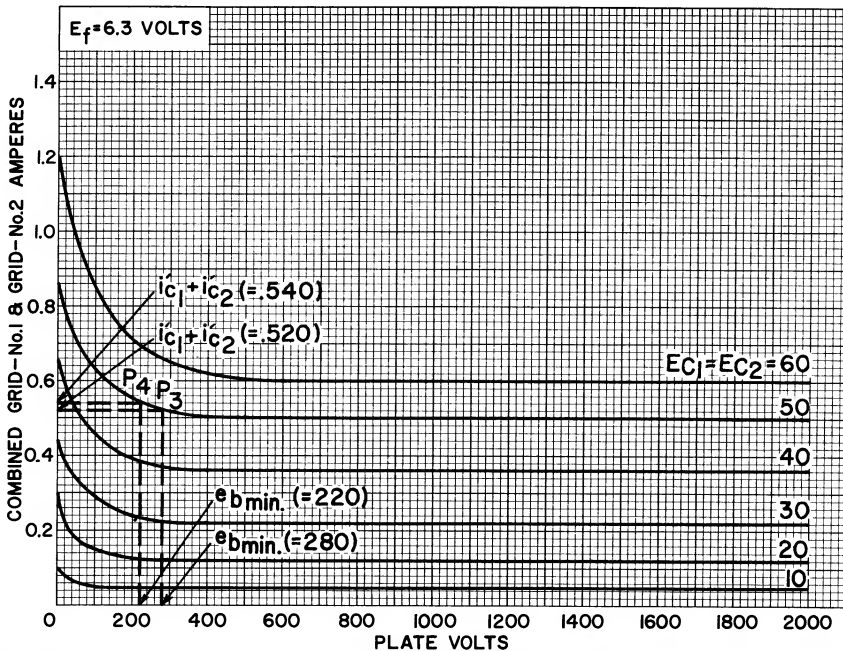

Figure 2: Typical grid characteristics for type 7094 triode connection (grid No. 1 connected to grid No. 2).
(7) Select a point P3 on knee of one of the curves shown in Figure 1 at which  $i'_b$  equals 0.642 ampere. At this point,  $e_{cm}$  is +50 volts and  $e_{bmin}$  is 280 volts. From the curves shown in Figure 2,  $i'_{c1} + i'_{c2}$  equals 0.520 ampere.